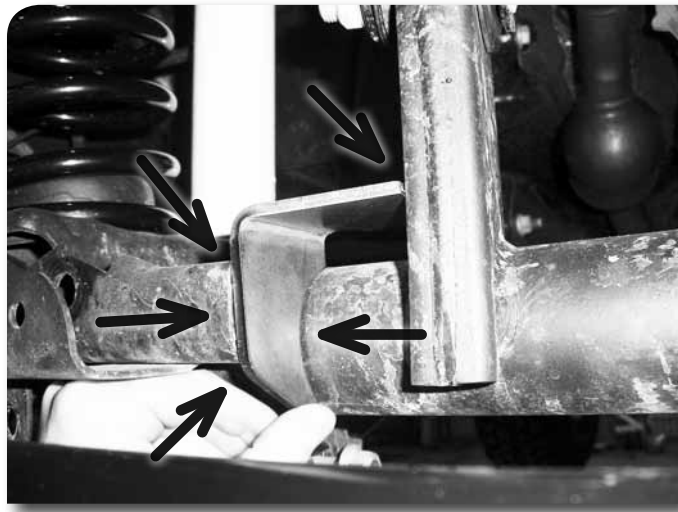

Figure 1
4. Position the provided formed gusset between the inside edge of the factory track bar mount and the passenger's side upper control arm axle mount. Position the bracket so it is flush to the front mount and the front edge is square to the front face of the factory track bar mount. **Figure 1** Note the areas to be welded and remove the gusset.
5. Remove paint, rust, oil, etc from the areas to be welded. Reposition the gusset and weld in place. Be sure to weld the gusset to the factory mount along all 3 edges, the gusset to the axle and the gusset to the UCA mount. **Arrows in Figure 1**